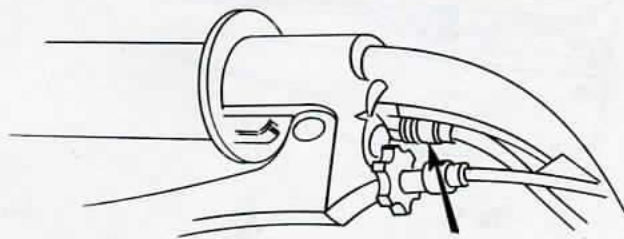

Fig. 5
- Adjust the cable tension at the decompressor adjuster on the twist grip (a small amount of free movement is required and should not exceed $\frac{1}{4}$ " , fig. 5).